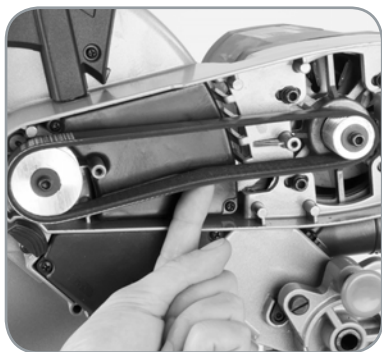

Fig. 48
- Place a finger underneath the drive belt and gently push upwards to discern the tension. **(Fig. 48)**
- When the belt tension is correct, tighten the four (4) socket headed screws and replace the transmission case cover.